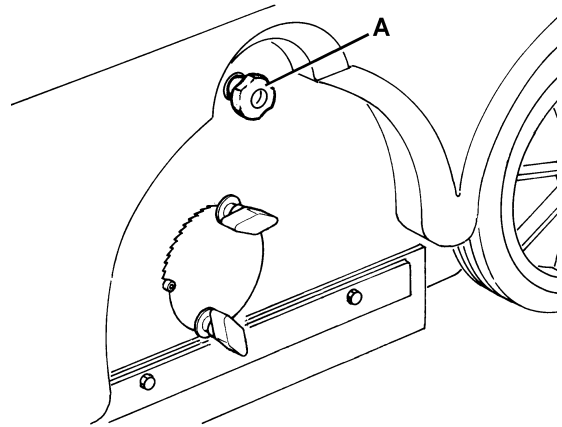
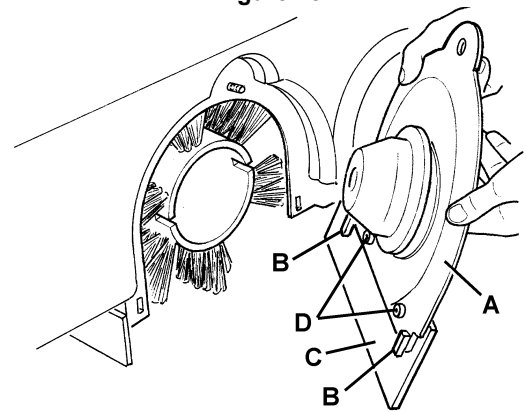

Figure 18
Figure 19
5. Open the hood (7), loosen the knob (A, Fig. 18) and remove the main broom left cover (A, Fig. 19), by pressing it downwards to disengage the fasteners (B).
6. Adjust the height of the left skirt (C, Fig. 19) by using the slots (D).
17. If necessary, adjust the skirt height by using the slots on the screws (C and D, Fig. 19).